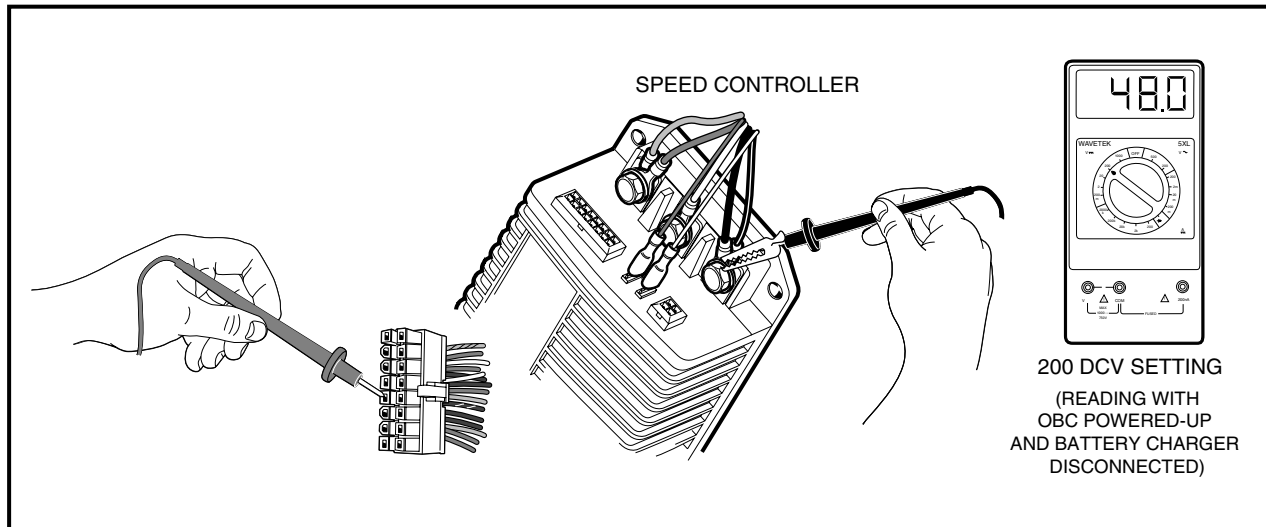

Figure 11-12 Pin 5 Test
4. Using a multimeter set for 200 volts DC, insert the red (+) probe of the multimeter into pin 5 (light blue wire) of the 16-pin connector. **See following CAUTION.** Using an alligator clip, connect the black (-) probe to the B- terminal of the speed controller (**Figure 11-12, Page 11-29**).